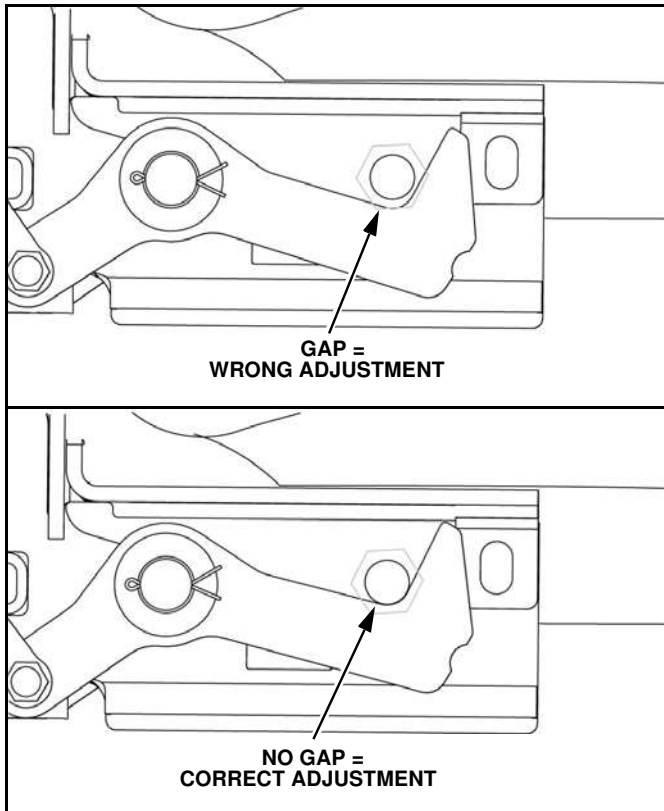

Figure 1-37
5. Periodically the turnbuckle will need to be adjusted due to wear and tear of the VRM. (See Figure 1-37).